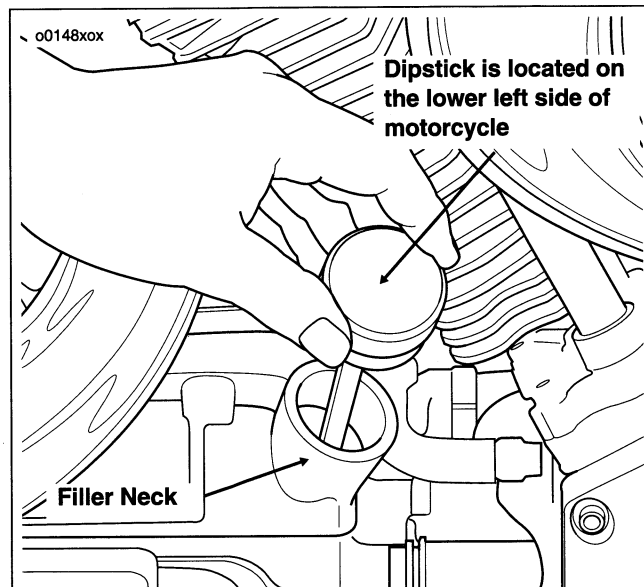

Figure 30. Dipstick Location
See Figure 30. for dipstick location.
1. See Figure 30. With the vehicle resting on the jiffy stand on level ground, wipe off the dipstick and insert it back into the oil pan with the plug pushed **completely** into the fill spout.